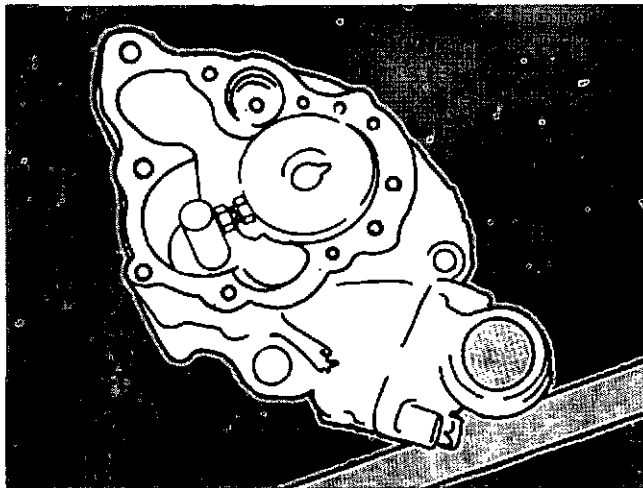

Fig. 7-1. Install The Guide Bushing Into The Gear Pocket.
- 1) Install the guide bushing into the gear pocket, Fig. 7-1. Tighten the capscrew against the side of the gear pocket to hold the guide bushing in position.